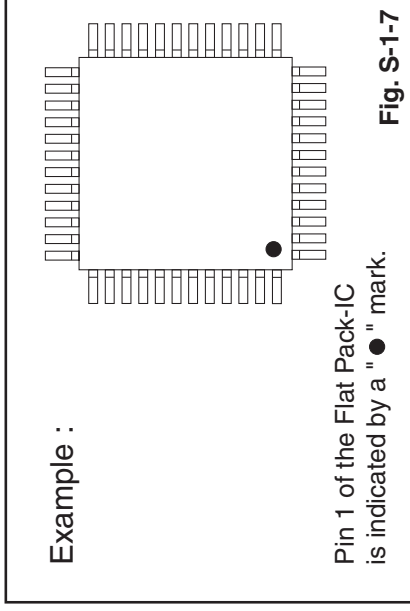
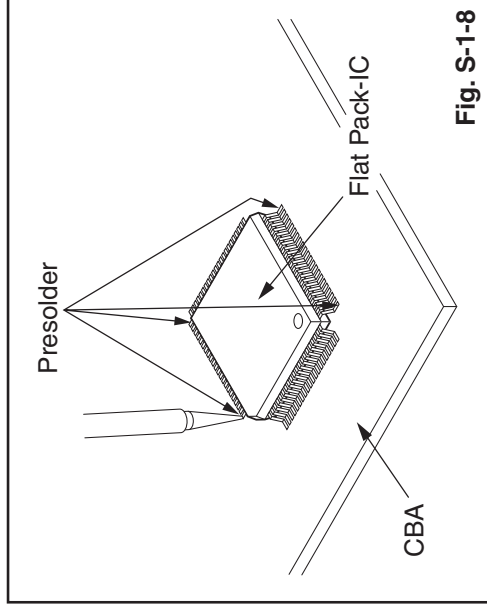

Fig. S-1-7
Fig. S-1-8
2. The "●" mark on the flat pack-IC indicates pin 1. (See Fig. S-1-7.) Be sure this mark matches the pin 1 on the PCB when positioning for installation. Then presolder the four corners of the flat pack-IC. (See Fig. S-1-8.)